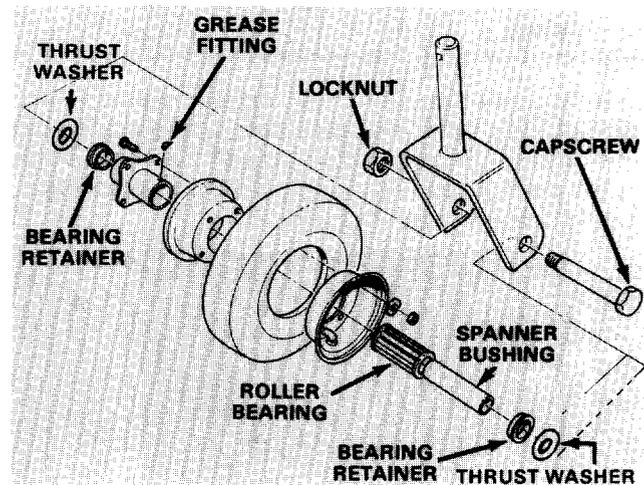

Figure 26
1. Remove locknut from capscrew holding castor wheel assembly between castor fork (Fig. 26). Grasp castor wheel and slide capscrew out of fork.
Note: Account for the two thrust washers (Fig. 26).
2. Tip wheel to the side and allow spanner bushing to fall out (Fig. 26).
6. Pump grease through grease fitting on wheel (Fig. 26) until bearing is greased thoroughly.